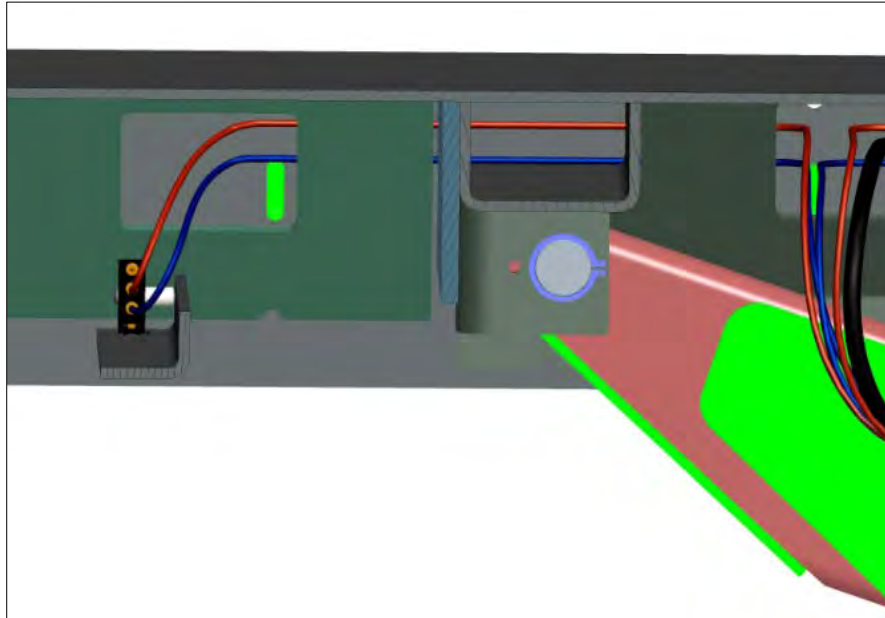

Figure 11a - Equalizing Pneumatic Switch. (View under LS Deck - Front)
There are three (3) pneumatic limit switches on this lift. Each runway is outfitted with an individual equalizing pneumatic switch mounted on a bracket located under the front of the runway. The third pneumatic switch, used for height limit detection, is located under the rear slip plate area on the left scissor assembly. Each Pneumatic Switch has a Ø4mm air supply line (Red) and a Ø4mm air return line (Blue). See **Figure 11a & 11b**.